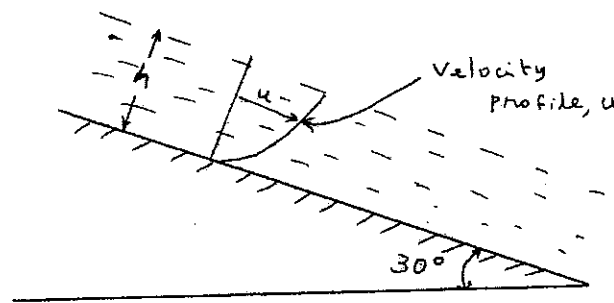

Fig. 1
1. An oil with specific gravity of 0.85 and viscosity of  $1.12 \times 10^{-3}$  Ns/m2 flows steadily down a surface inclined  $\Theta = 30^\circ$  as shown in Fig. 1. The value of  $h = 0.1$ mm and velocity profile is given by